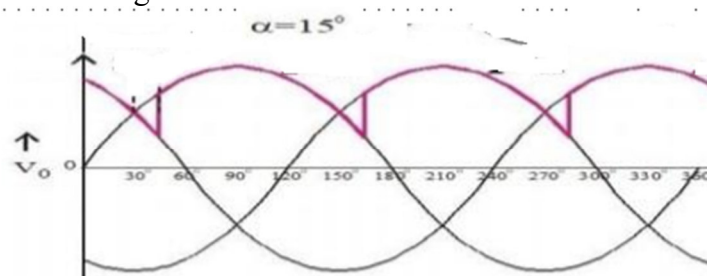

Figure 7.7: Output Waveform For Three Phase Halfwave Controlled Rectifier
- Now adjust all the potentiometers, by observing the output waveform, to a position that all firing angles (α) of all SCRs be the same and output waveform is above 0 level ($\alpha < 30^\circ$) as shown in the Figure 7.7.